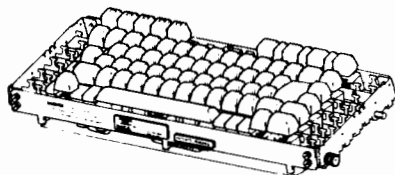

Fig. 1—43K101/CAA Operator Console
1.01 This section provides disassembly and reassembly procedures for the 43 operator console (opcon) (Fig. 1).